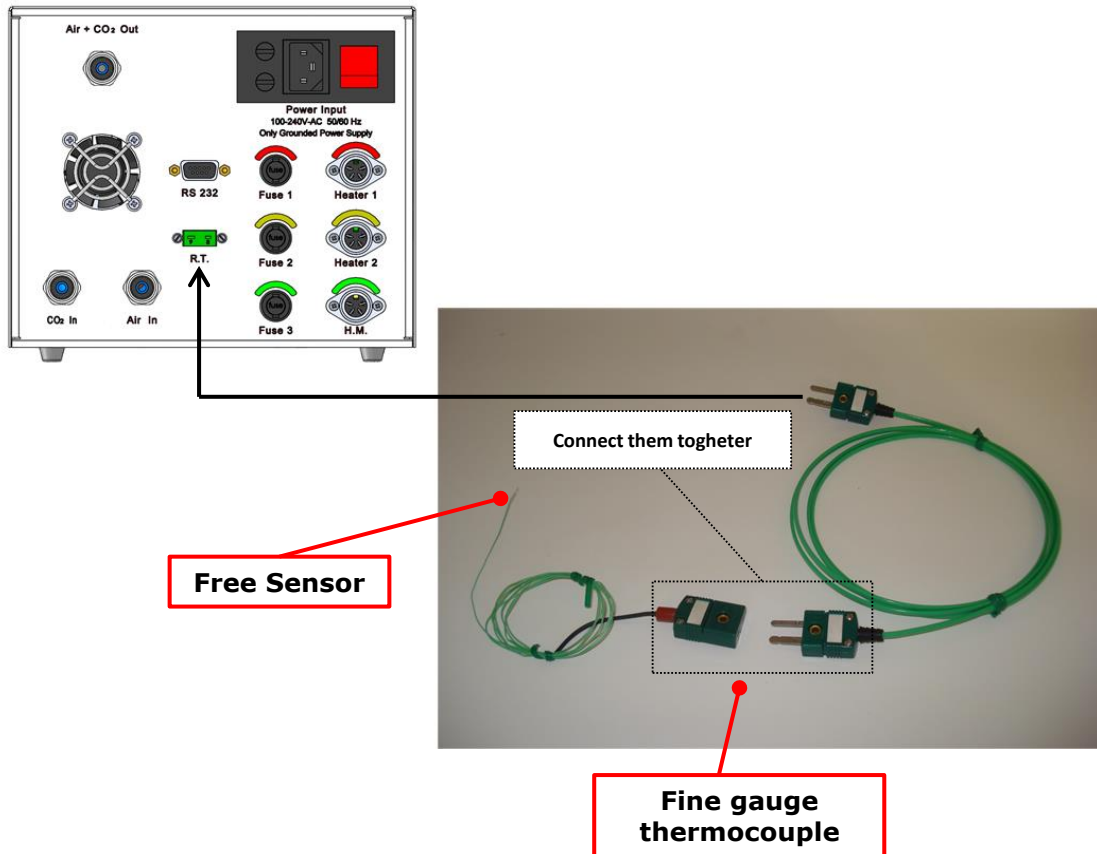

Figure 14. Free Sensor with male to male extending cable.
1. Plug the green Fine Gauge Thermocouple in the port labeled "Reference Temperature" located in the rear panel of the Temperature Control Unit, as illustrated in Figure 14.